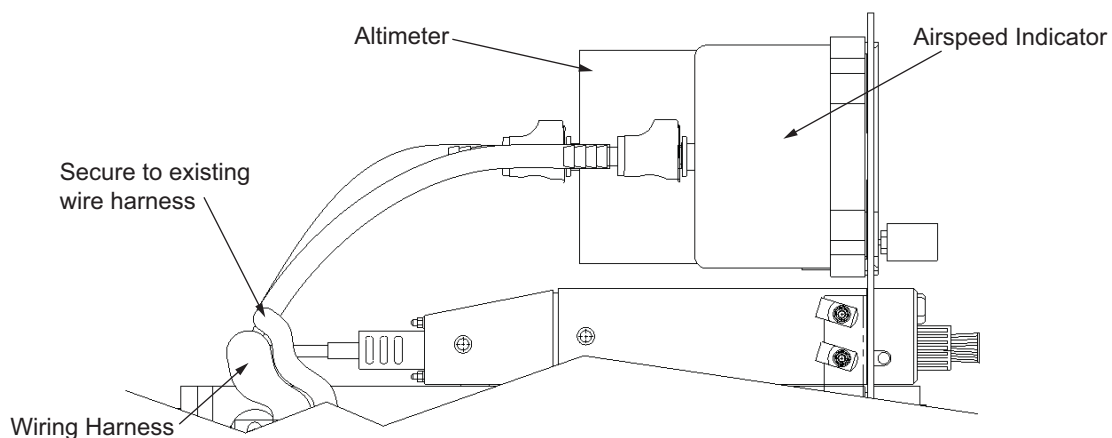

Figure 6
- 10.6.9 Secure hoses to the existing wire harness. Refer to Figure 6.